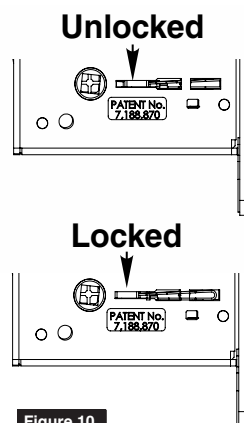

Figure 10
**MAKE SURE LOCK IS UNLOCKED. (FIGURE 10)**